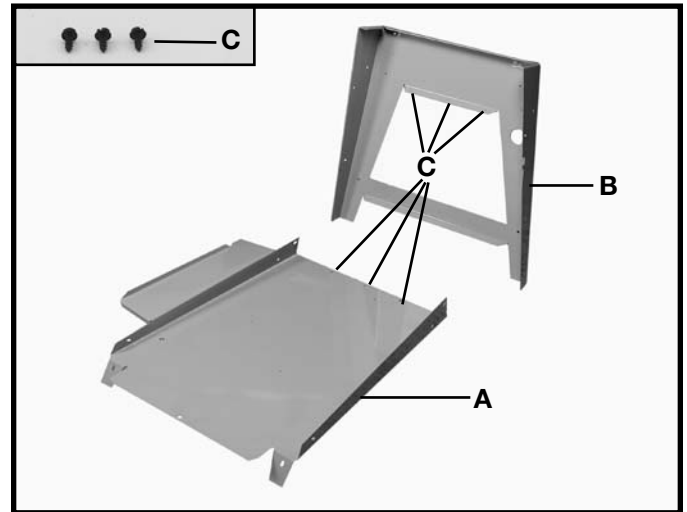

Fig. 8
1. Assemble the dust chute and support panel (A) Fig. 8, to the inside of the front stand panel (B) with three #10 x 1/2" sheet metal screws (C).